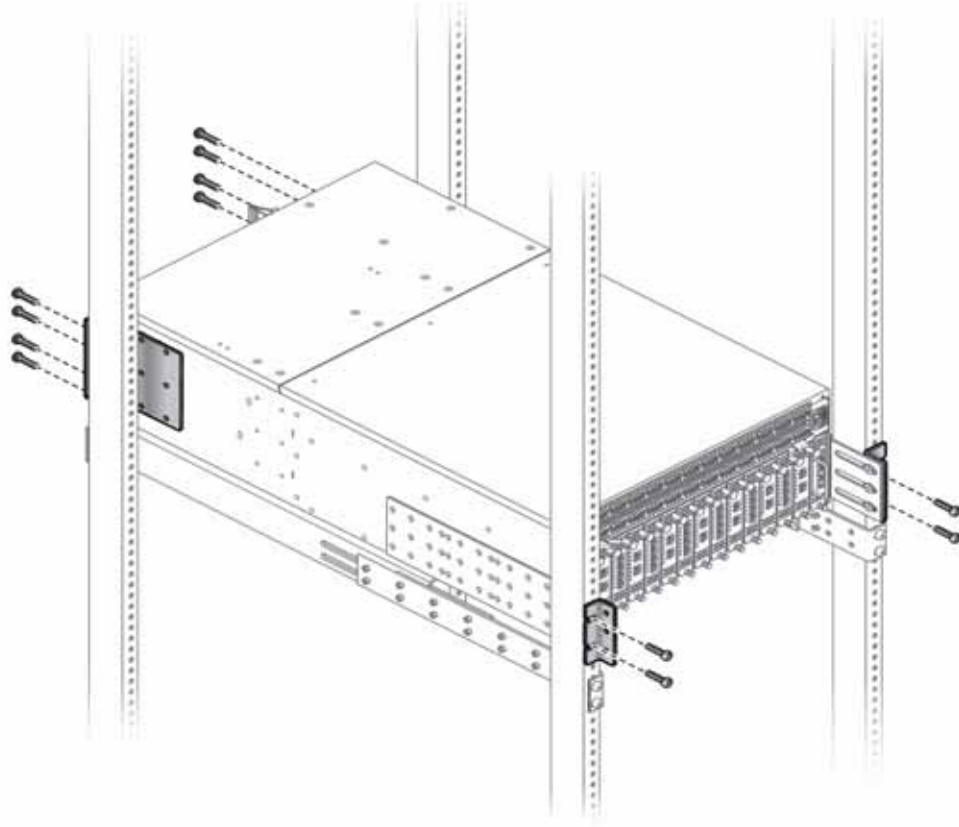

Figure 6 Attaching the Chassis to the Rack Posts
Step 20 When the angle brackets are installed on the side panel, insert the pan-head screws (10-32, 12-24, or M6) through the slotted edge of the angle bracket, into the chassis and tighten the screws to attach the chassis to the rack. Each point of attachment to the rack requires two screws. Figure 6 shows attaching the chassis to the rack.